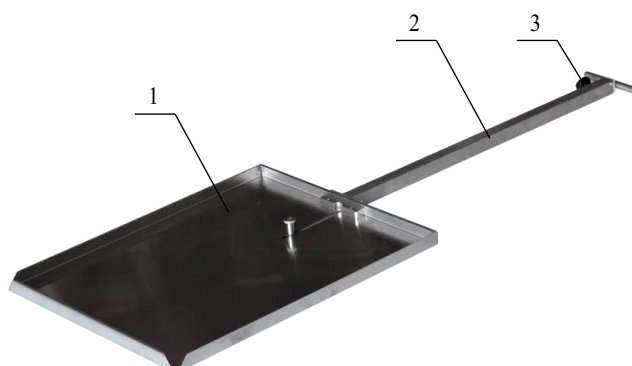

Figure 6. X-ray cassette holder.
6. X-ray cassette holder (Figure 6). Metal spatula with a lock and a long folding handle for insertion (installation) of the R-cassette under the X-ray-transparent table top in the longitudinal direction.